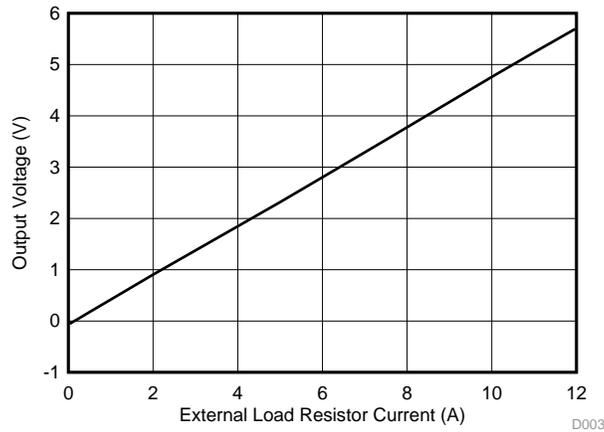

Figure 5. Output Voltage Versus Load Current
4. Turn on the DC power supply connected to the external Vin responsible for providing the input load current. Figure 5 gives the relationship between the input load current and the output voltage measured across the outputs OUT+ and OUT-.
Section 3.1.1 details the setup procedure for high-side current testing. Figure 5 shows the linear relationship between the measured input load current and the output voltage across OUT+ and OUT- or $V_{OUT} = (OUT+) - (OUT-)$.